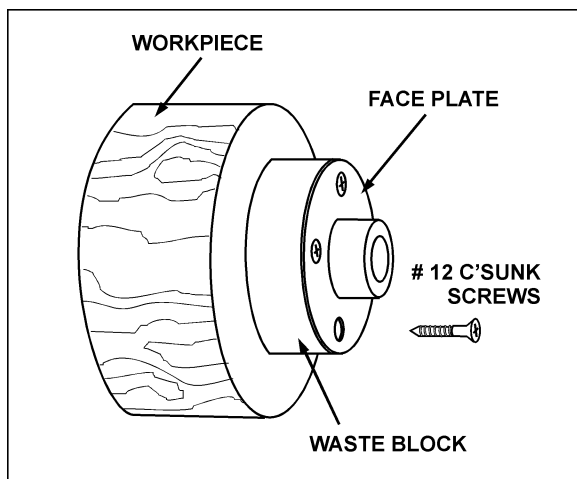

Figure 36
5. Make a block the same diameter as the face plate, Figure 36. Both glue block and workpiece should have flat surfaces for gluing.